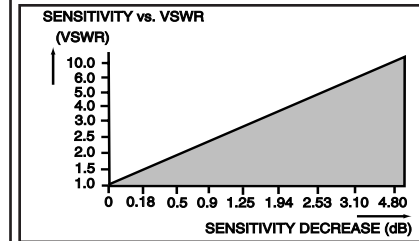

Figure 3: Sensitivity vs. VSWR
- For BER of 10-5 at 4800 baud. Sensitivity is affected by antenna SWR. See Figure 3.